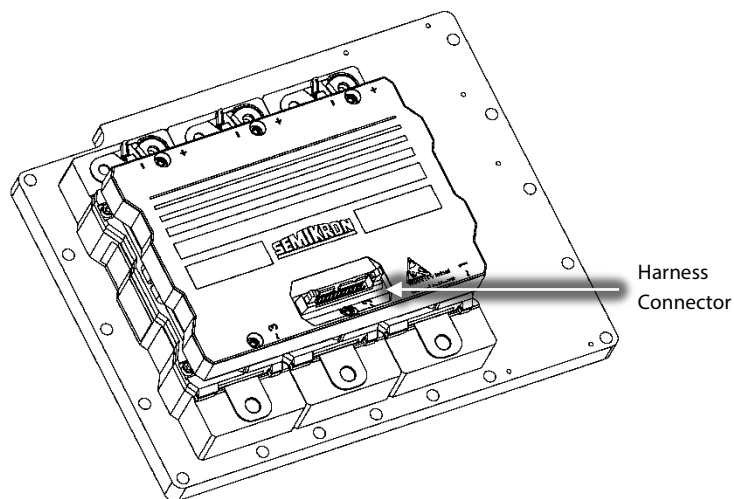

Figure 16 –Inverter Harness Removal
24. Remove the Inverter cable harness from the top of the Inverter. Refer to Figure 16 (Inverter Harness Removal).